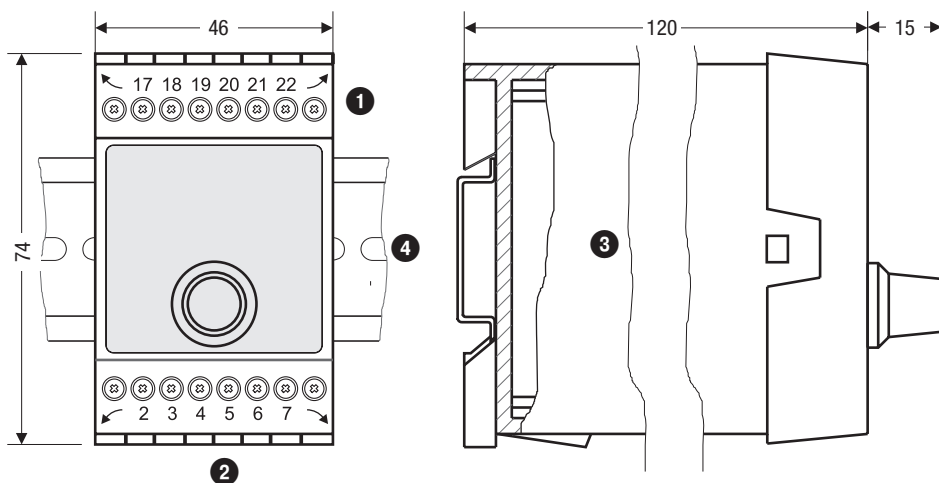

Fig. 1
The level switch NRS 2-50, NRS 2-51 is clipped onto the support rail type TH 35, EN 60715 in the control cabinet. **Fig. 1** ④